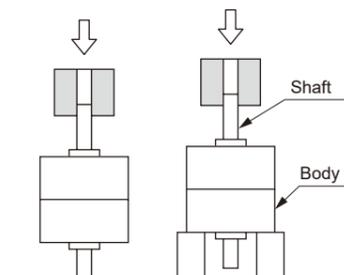

Fig. 3
When installing a load or jig, etc., on the rotary actuator shaft, check that load is not applied to the body as shown in Fig.3.
(3) Turn the angle adjustment Hexagon Bolt, Hexagon Nut, and seal washer together as shown in Fig.3, and adjust the angle. At this time, be careful not to let the rubber part of the seal washer get caught in the threaded part.